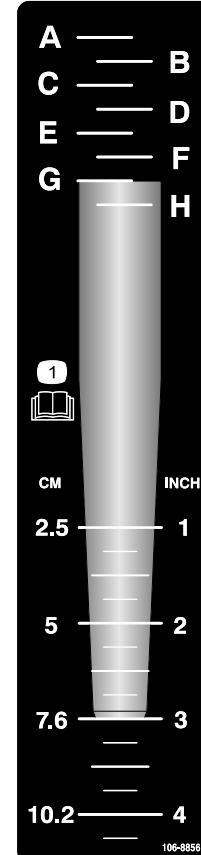

Figure 22
- Lay the desired tine onto the depth decal while aligning the tine tip with the desired aeration depth as shown in Figure 22.
- Determine the letter setting aligned with the mounting end of the tine (Figure 22). Adjust the depth control to the corresponding letter on the decal.